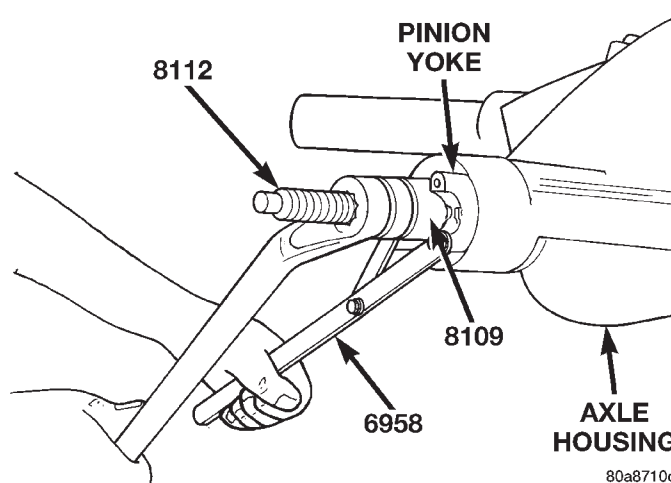

Fig. 9 Pinion Yoke Installation
(2) Install yoke on the pinion gear with Screw 8112, Cup 8109, and Holder 6958 (Fig. 9).